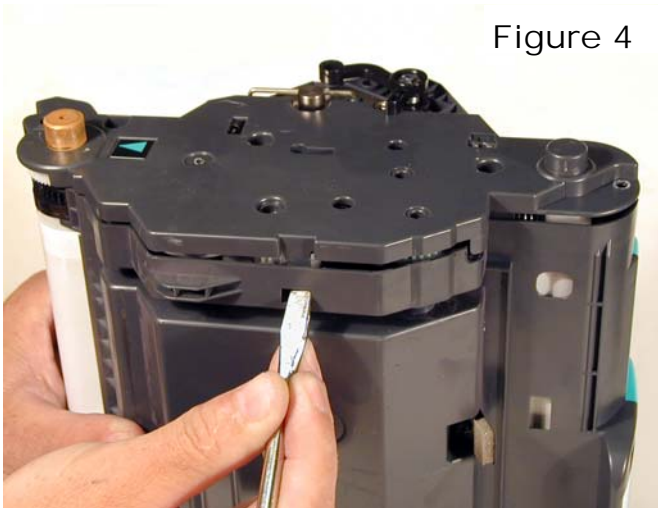

Figure 4
3) Press in on the bottom and top tabs to release. See **Figures 4 & 5**